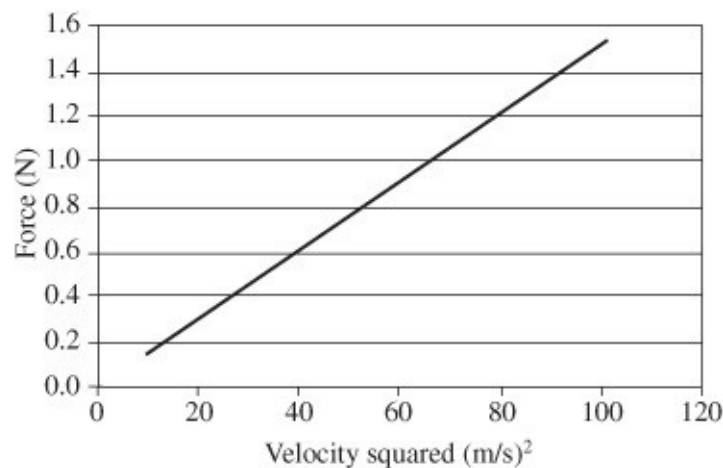

Figure 13-5 Centripetal force versus velocity squared.
2. Either using Excel or plotting by hand makes a graph of *force* versus *velocity squared*. If the relationship is of the form expected, that graph should be a straight line. This is shown in Figure 13-5.